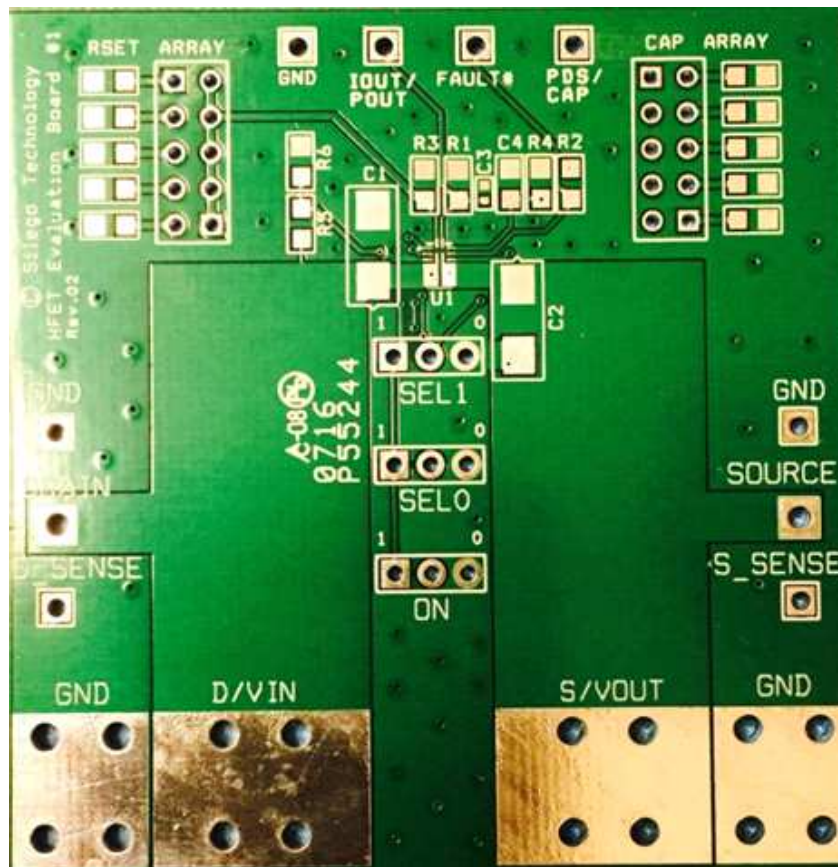

Figure 28. SLG5NTH1011V Evaluation Board
1. Since the VIN and VOUT pins dissipate most of the heat generated during high-load current operation, it is highly recommended to make power traces as short, direct, and wide as possible. A good practice is to make power traces with absolute minimum widths of 15 mils (0.381 mm) per Ampere. A representative layout, shown in Figure 28, illustrates proper techniques for heat to transfer as efficiently as possible out of the device;
A High Voltage GreenFET Evaluation Board for SLG5NTH1011V is designed according to the statements above and is illustrated on Figure 28. Please note that evaluation board has D\_Sense and S\_Sense pads. They cannot carry high currents and dedicated only for  $RDS_{ON}$  evaluation.